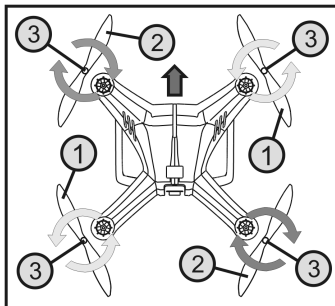

Figure 1
The propellers have glued-in attachment nuts (see figure 1, item 3), which tighten themselves when the quadrocopter is in operation.